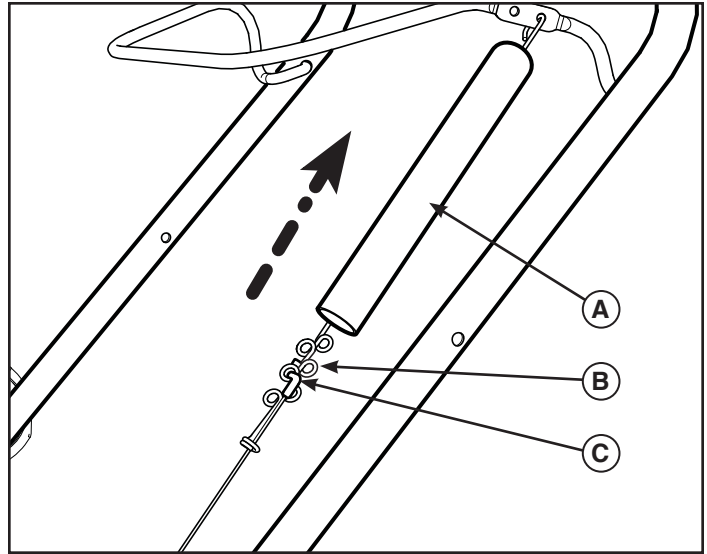

Figure 15
1. Remove the ON/OFF key (A, Figure 15) or pull out the ON/OFF switch or Push/Pull key. Keep the key away from children.
2. Grasp the choke control (B) and pull up to remove.
3. Remove the mounting screws (C).
4. Carefully remove the top part of the snow hood (D). DO NOT disconnect the primer hose (E) or the key wire (F).
5. Remove the spark plug (G) and replace. (See Specifications).
8. Align the slots (H, Figure 15, Inset) in the choke knob with the tabs on the choke shaft (I) and push down to install. If knob is not installed correctly, the choke will not operate.